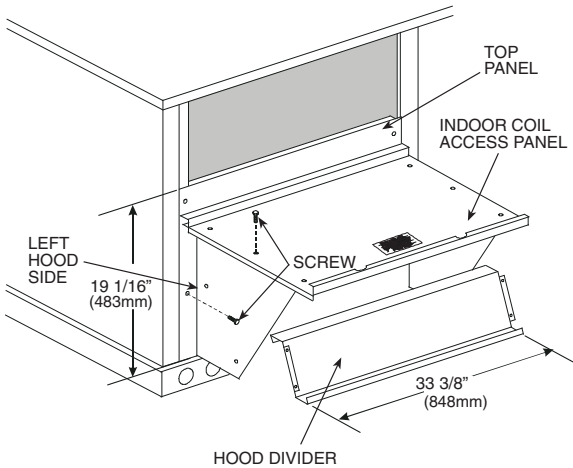
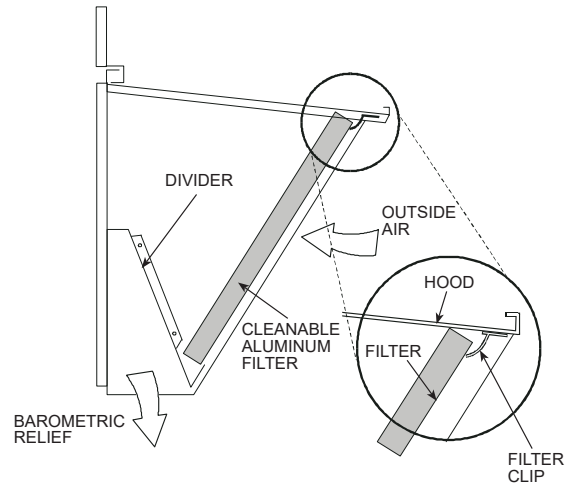

Fig. 16 — Economizer Hood Construction
Fig. 17 — Economizer Filter Installation
- Swing out indoor coil access panel and insert the hood sides under the panel (hood top). Use the screws provided to attach the hood sides to the hood top. Use screws provided to attach the hood sides to the unit. See Fig. 16.
- Insert the hood divider between the hood sides. See Fig. 16 and Fig. 17. Secure hood divider with 2 screws on each hood side. The hood divider is also used as the bottom filter rack for the aluminum filter.
- Open the filter clips which are located underneath the hood top. Insert the aluminum filter into the bottom filter rack (hood divider). Push the filter into position past the open filter clips. Push the filter into position past the open filter clips. Close the filter clips to lock the filter into place. See Fig. 17.